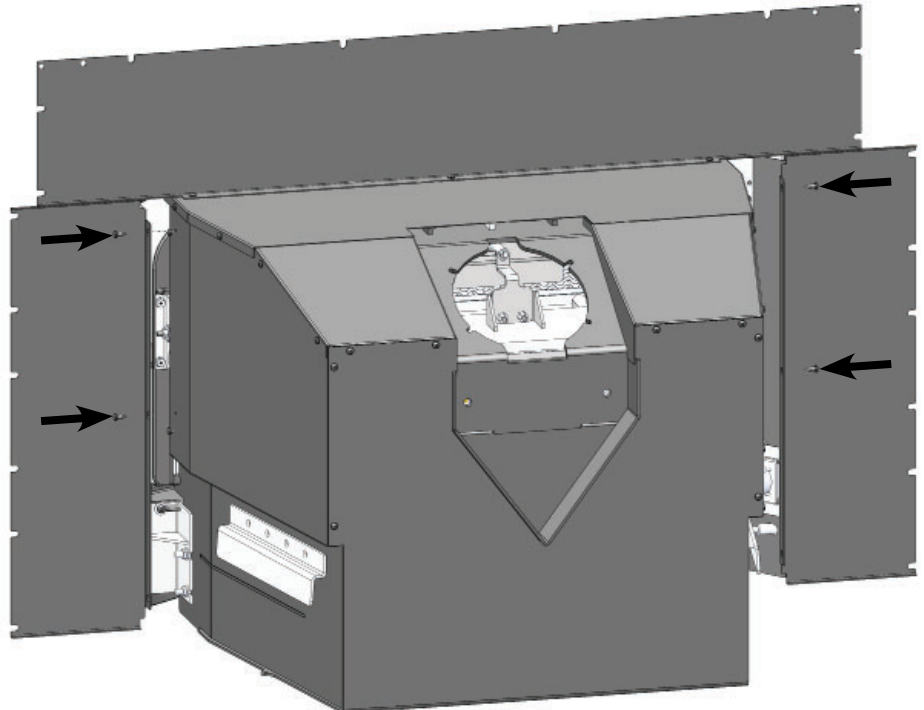

FIG.2
2. Fasten shroud sides to stove using two 10x1/2" black screws per side. (FIG.2)